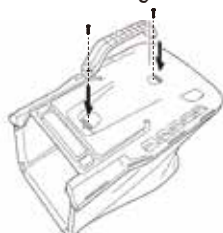

FIG.4
1. Align and insert the carry handle into the slots of top frame of grass catcher until both ends "click" into place (Fig. 4). then use screw to fix handle both sides.